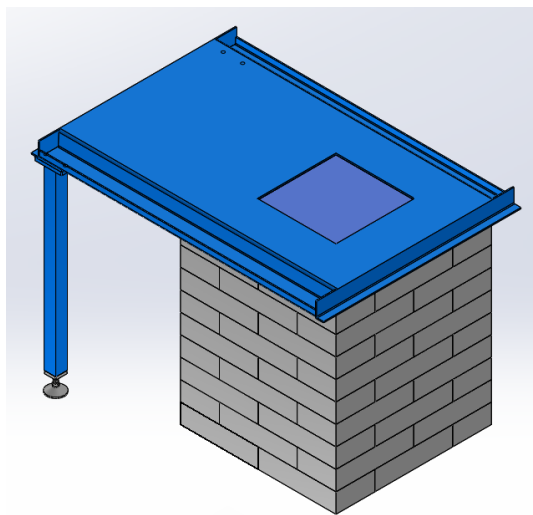

Fig. 5: Place and adjust the sliding lid base.
2. Place the sliding base on the top of the lead shield and align the square hole to cavity in the lead shield (see Fig. 5).